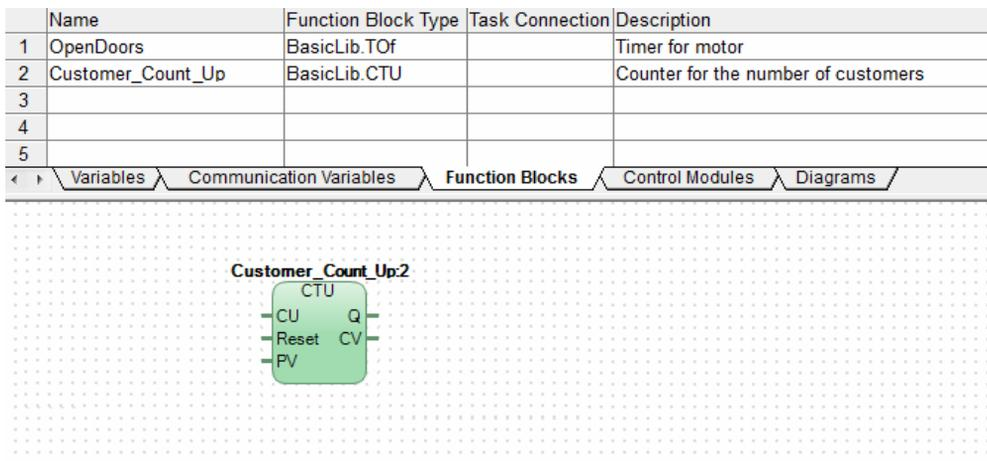

Figure 25. Declare CTU Function Block Type in Number\_of\_Customers page
- Customer\_Count\_Up function block is created as in the Figure 25. Add the description according to Figure 25.